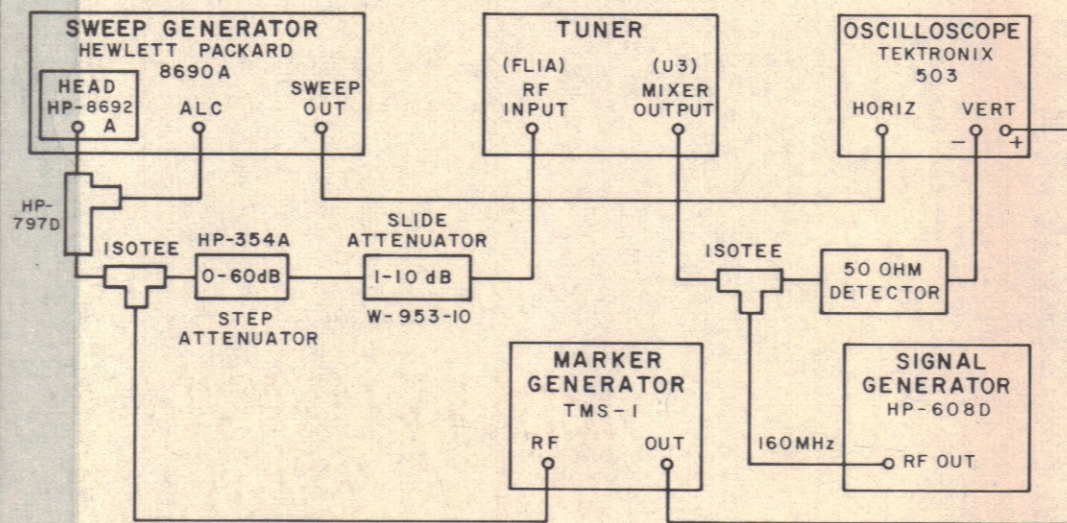
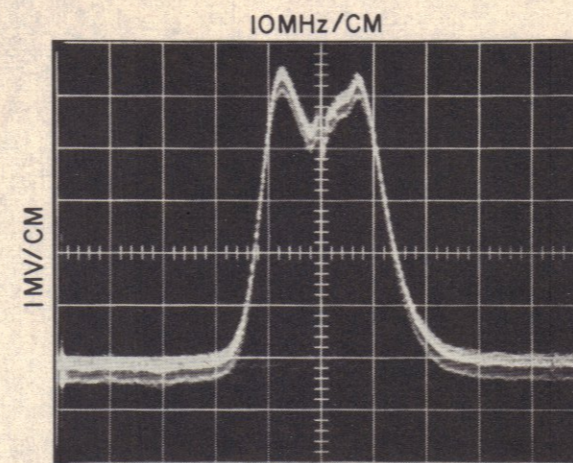

Figure 4-1d. Equipment Connections, YIG Filter and LO Tests
Figure 4-1e. Typical Tuning Head Overall Response
- (1) Determine that adequate output power is available from the VFO by performing the procedure as stated in paragraph 4.5.3.
- (2) Interconnect the test equipment as shown in Figure 4-1d, page 4-12.
- (3) Tune the TH-245B to 2000 MHz. Adjust the HP-8690A controls to sweep the 2-4.5 GHz range.
- (4) Activate the TMS-1 100 MHz markers.
- (5) Identify the 2000 MHz marker. Reduce the sweep width to expand and display the TH-245B IF response which should be approximately centered on the 2000 MHz marker. A typical overall response is shown in Figure 4-1e.
- (6) Tune the TH-245B and sweep generator through the 2000-4500 MHz band stopping every 200 MHz and checking the overall response.
- (7) The tape dial on the TH-245B should read correctly within 1% at each point and the response should be approximately centered on the marker, or close enough to center to ensure a 22 MHz minimum and 25 MHz maximum response to the 3 dB points.
- (4) Connect the equipment as shown in Figure 4-1d, page 4-12.